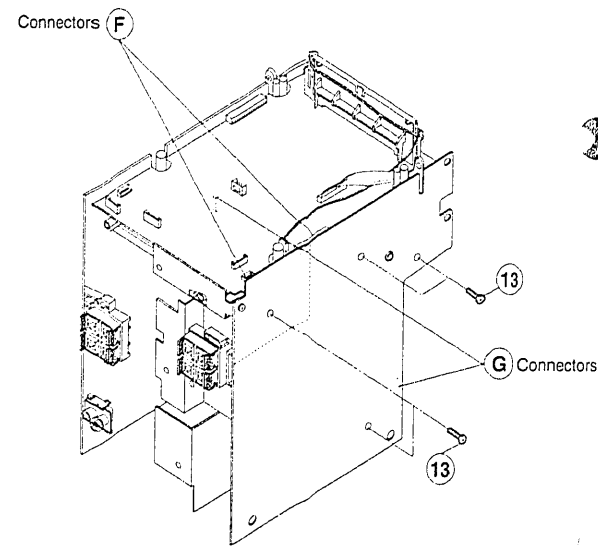

Fig. 10
- (1) Remove 2 screws ⑪ from the Main Chassis and then disconnect 1 connector ⑪. Remove 2 screws ⑫ for the removal of Volume Gear.
9. **Removal of Main P.W.B (Fig. 10)**